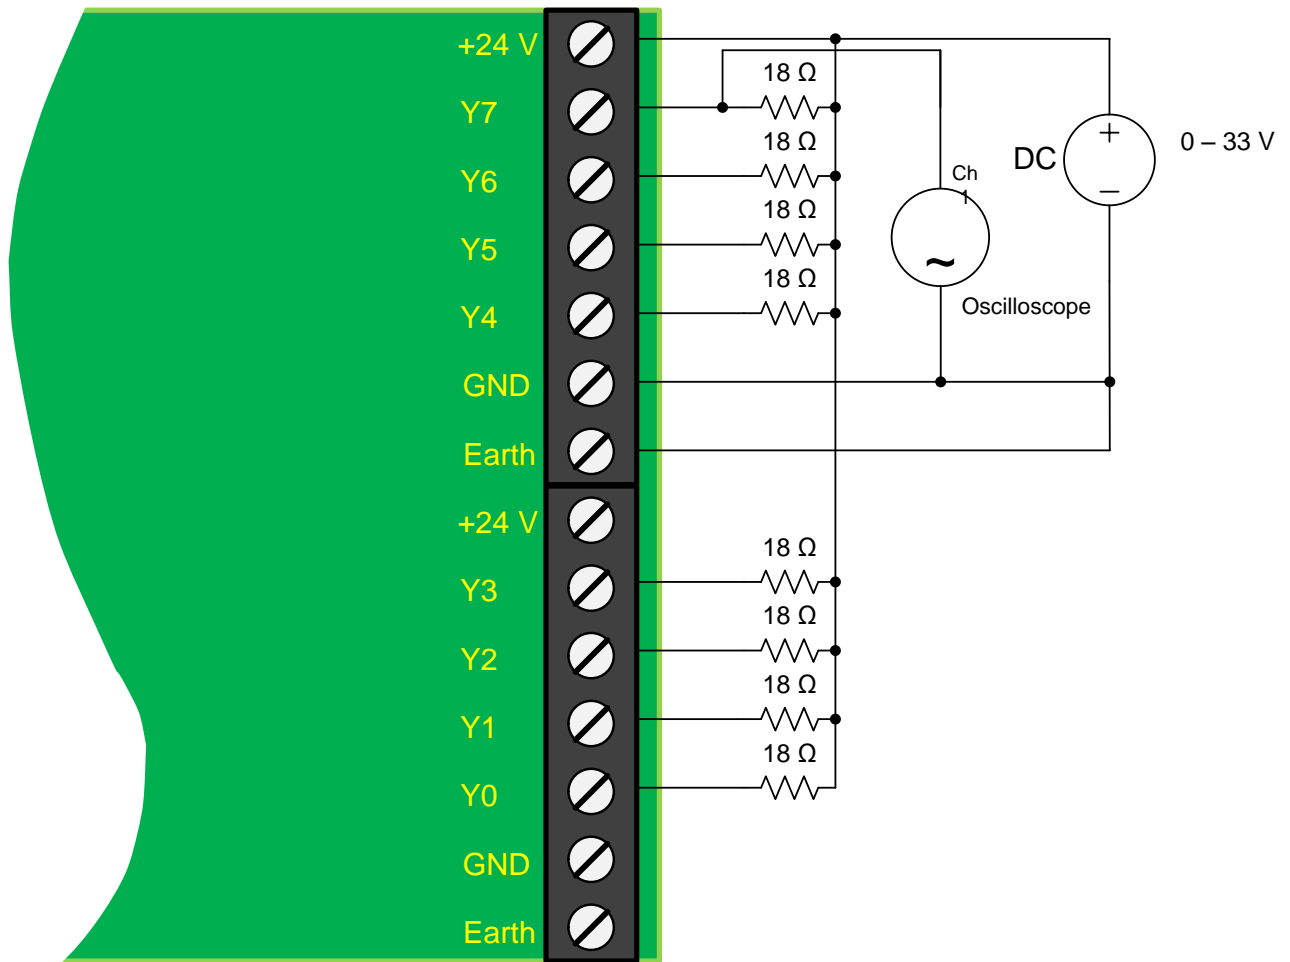

图 3. Measurement Setup for Rise and Fall Times
- Connect loads and power supply according to 图 3.